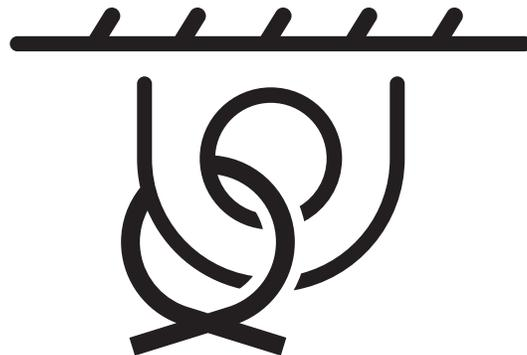

Figure 2. Tie-Down Strap Symbol
1. Locate the tie-down strap symbol (Figure 2) on top of the left and right trowel guard rings.